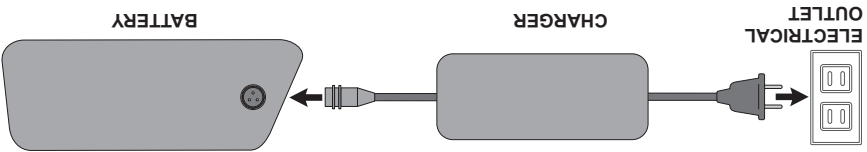

fig. 4
- Follow the order of operations for connecting the charger and charging the battery (fig. 4) as outlined by your e-bike manufacturer. An improperly connected charger can result in damage to the drive system components.